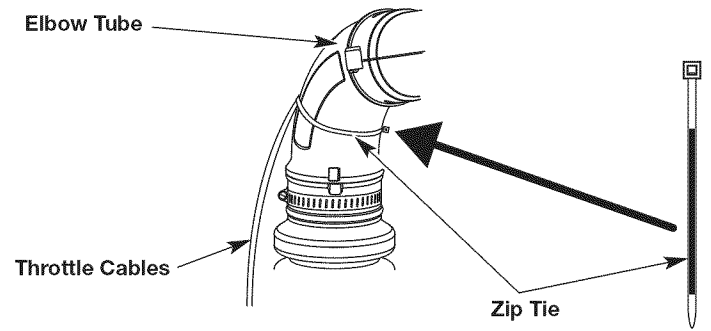

Fig. 5
1. Wrap a zip tie around the elbow tube and the throttle cables (Fig. 5).